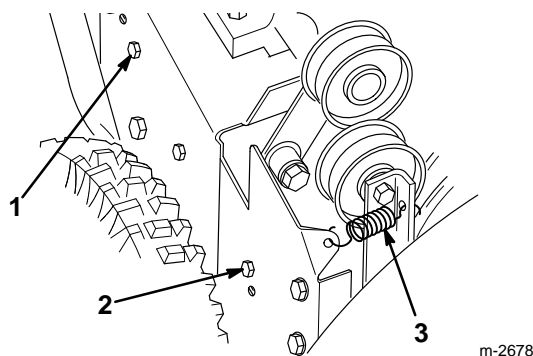

Figure 23
3. Loosen the auger brake arm assembly by loosening the rear screw and removing the front screw (Fig. 23).
4. Remove the idler pulley spring (Fig. 23), allowing the brake arm assembly hang free, but out of the way.
3. Loosen the auger brake arm assembly by loosening the rear screw and removing the front screw that fastens the auger brake arm assembly to the frame (Fig. 23).
4. Remove the idler pulley spring (Fig. 23), allowing the brake arm assembly to hang free, but out of the way.